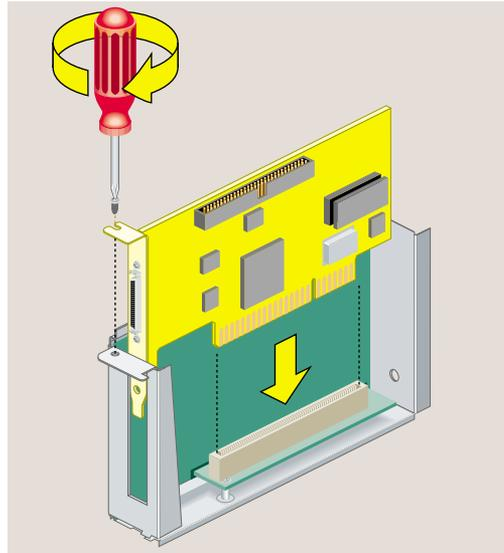

Figure 2-16 Installing the PCI Board
- Slide the PCI board into the tray and push the PCI connector firmly into the slot (Figure 2-16). Make sure it is completely seated. You should hear a click as it is seated. You may have to use some pressure.
- Replace the screw and tighten it (Figure 2-16).